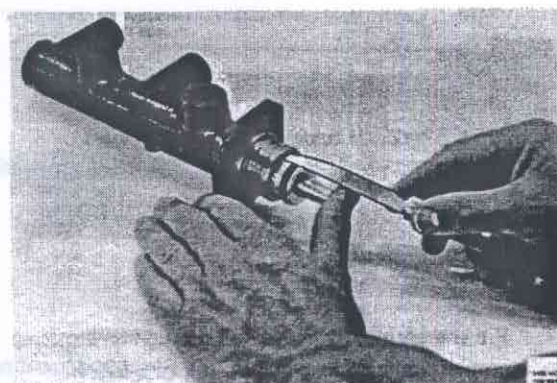

Fig. 52-18. Fitting the piston
2. Fit the guide, washers 1 and 3 and the spring on the secondary piston, see Fig. 51-17. Carefully fit the piston in the cylinder. Use a feeler gauge for the seals, see Fig. 52-18.